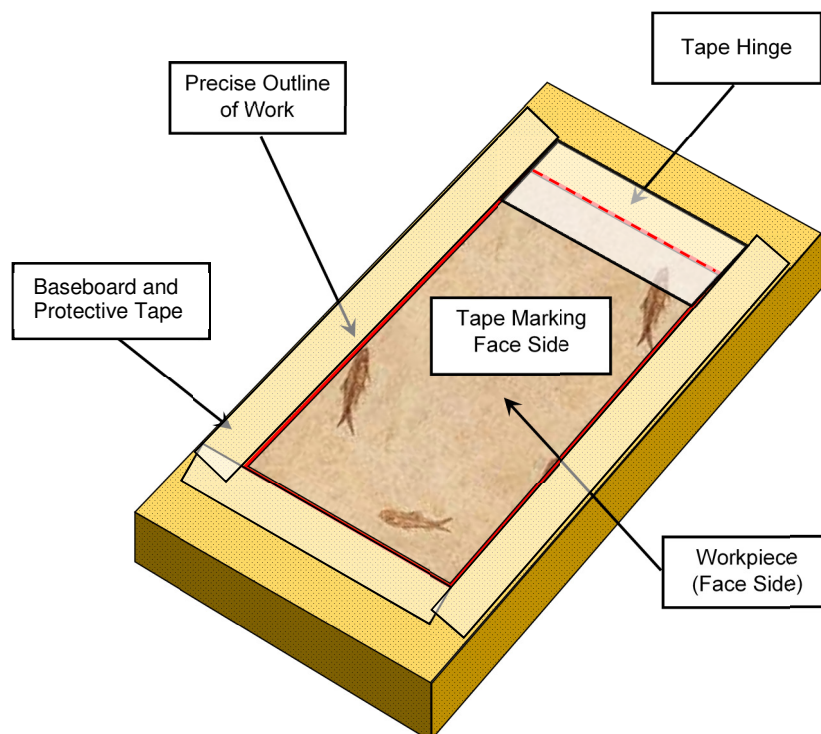

Figure 5-3: Applying a Tape Hinge
5.3. Whichever type of glue is used, place the work in its correct position as indicated by the positional marks made earlier. Tape one edge to the baseboard to form a hinge. This should keep the work in the correct position once glued. See Figure 5-3 below.